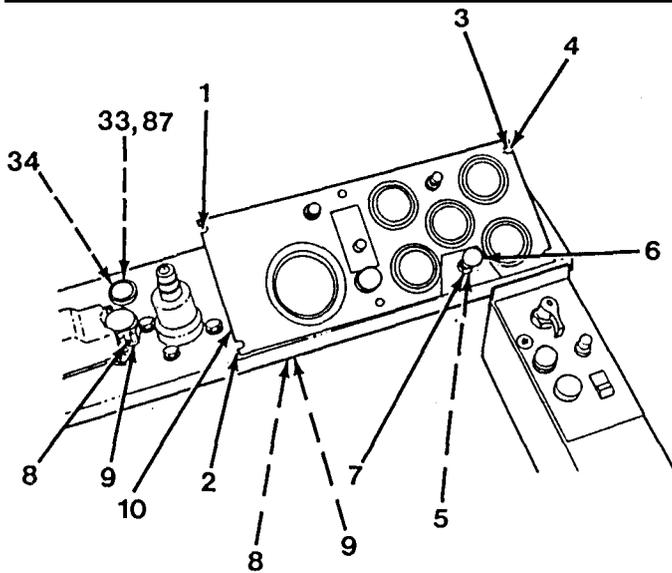
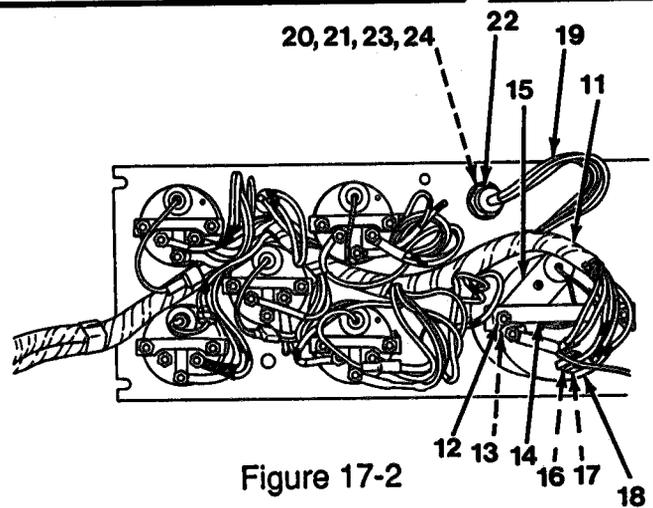

Figure 17-1
Figure 17-2
10. Installation of speedometer alarm: Push speedometer alarm (33) through dash and install plastic retaining nut (87) on front of speedometer alarm. Install wires (34, Figure 17-1).
13. Installation of three dash lights: Install light bulb (23) and filter in socket (22). Connect wires (19). Push socket (22) through dash and install internal tooth washer (21) and nut (20, Figure 17-2). Install cover (24).
14. Installation of gauges: Install light bulb (16) and filter (17) in socket (18). Push gauge (15) through panel. Install bracket (14), two washers (13) and nuts (12). Connect wires (11).
15. Installation of dash: Carefully lift and position dash (10) over mounting holes and install screw (8) to turn signal switch mounting band and secure clamp and ground wire (9, Figure 17-1).
16. Connect two plastic cannon-style electrical connectors under right-hand corner of dash panel (10)
17. Position cold start cable in dash panel (10), install cable lock nut (7), cold start knob (6) and jam nut (5).
18. Install six washers (4), lockwashers (3), one bolt (2) and five bolts (1).